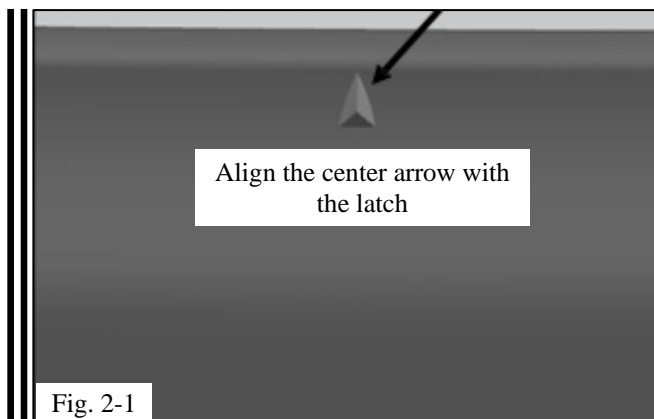

Fig. 2-1
- (a) Before installing the rear bumper protector, ensure the central arrow is aligned with the center of the vehicle or lift gate striker (dry fit) (Fig. 2-1).